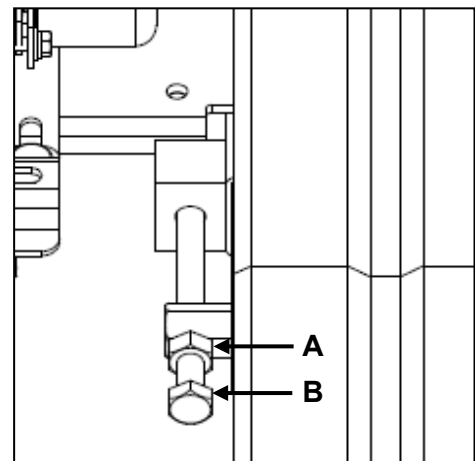

Figure 27
2. Loosen locknut (A, Figure 27) in the rear part of the machine.
3. Turn the tension bolt (B, Figure 27) clockwise to increase the crawler tension and counterclockwise to decrease.